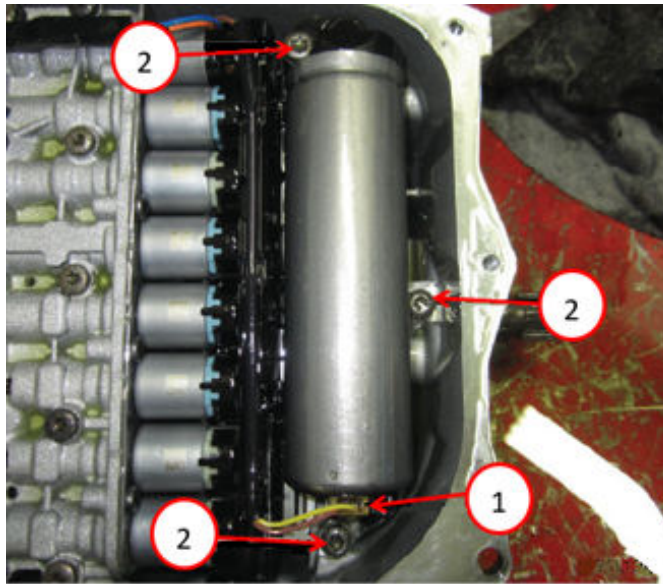

Fig. 48
72. If equipped, install the HIS and bolts Fig. 48.